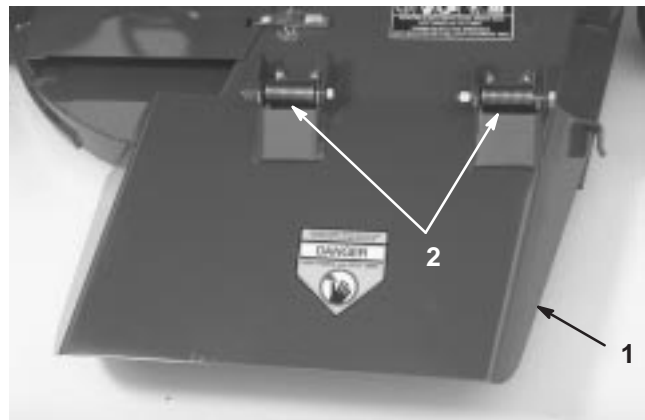

Figure 18
**Note:** The deflector is spring loaded into its downward normal operating position (Fig. 18), but the operator can temporarily swing it out of the way to facilitate loading in a trailer or when otherwise necessary.